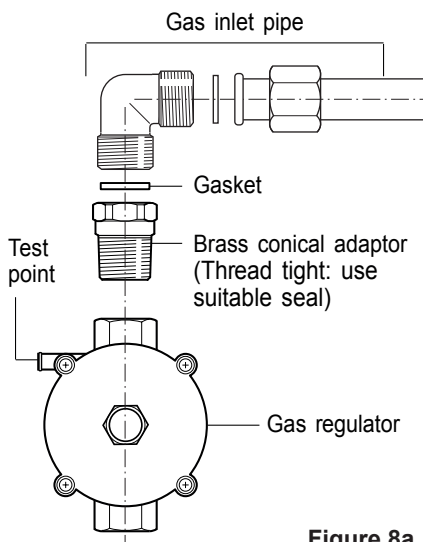

Figure 8a
- If the cooktop is suitable for use with Natural gas and must be converted for use with Universal LPG, before connecting to gas main remove the appliance gas regulator and replace with test point adaptor (see figs. 8a, 8b).
- If the cooktop is suitable for use with Universal LPG and must be converted for use with Natural gas, before connecting to the gas main remove the appliance test point adaptor and replace with gas regulator (see figs. 8a, 8b).